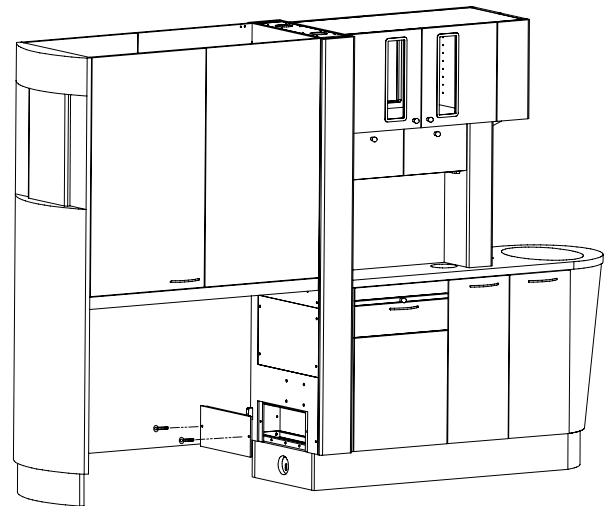

FIGURE 13
Remove the bottom access panel by removing the (2) joint connector bolts on the panel located at the back side of the utility column and hookup the electrical power source in the j-box behind the panel. See Figure 13. See separate instruction sheet(s) for wiring details. Replace panel when finished. For lighting hookup remove the panel above the lower panel for access to lighting j-box(s).